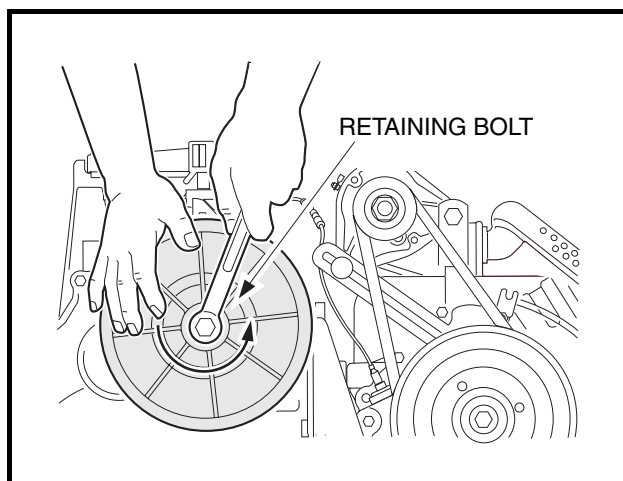

Figure 18-30 Driven Clutch
17. Remove the driven clutch retaining bolt and remove the driven clutch from the unitized transaxle (**Figure 18-30, Page 18-12**).